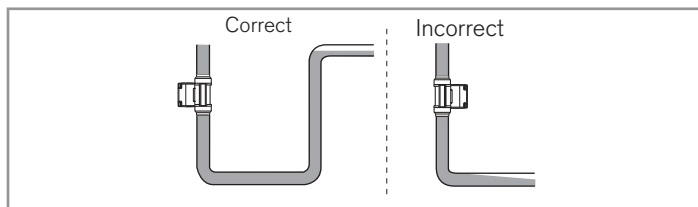

Fig. 5: Filling the pipe
- Ensure that the pipe is always filled in the section around the device (Fig. 5).